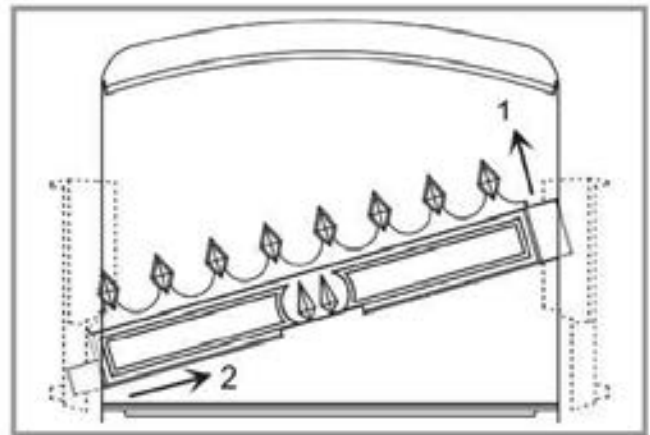

Figure 8 - Removing the retainer grate
- Remove the retainer fuel (fig. 8, p. 7), the two side bricks # 23 and 24 p. 13) and the flue baffle (fig. 7, p. 6).
First remove the retainer grate (fig. 8), the two side bricks and the flue baffle (fig. 7).